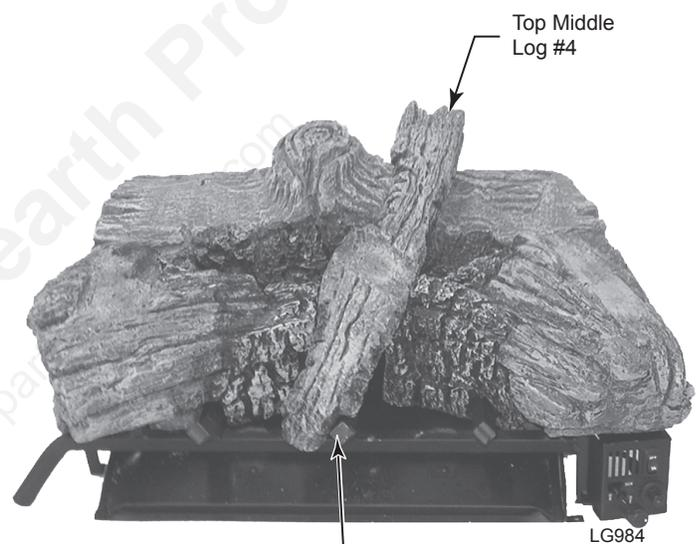

Figure 22
4. Place back end top middle log #4 on log #1. Press the side of log #4 against raised area of log #1. Align notch in front end of #4 with grate bar. *Figure 22*